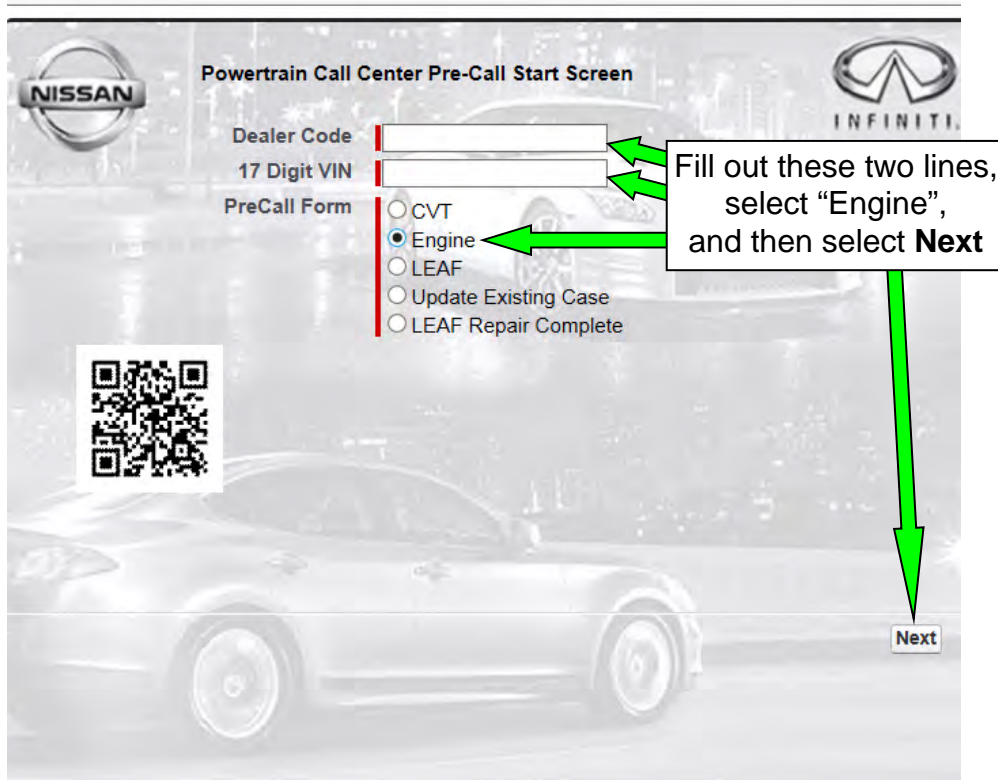

Figure 119
- See the pre-selection screen on page 57, Figure 119.